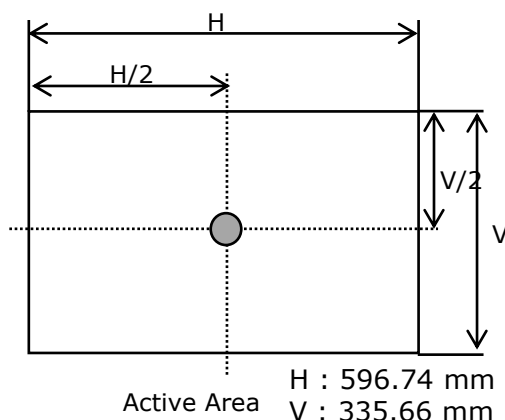

FIG. 8 Measure Point for Luminance
2. Surface luminance(L_{WH})is luminance value at Center 1 point(P1) across the LCD surface 50cm from the surface with all pixels displaying white. For more information see FIG.8 (By PR880)
For more information see FIG.8